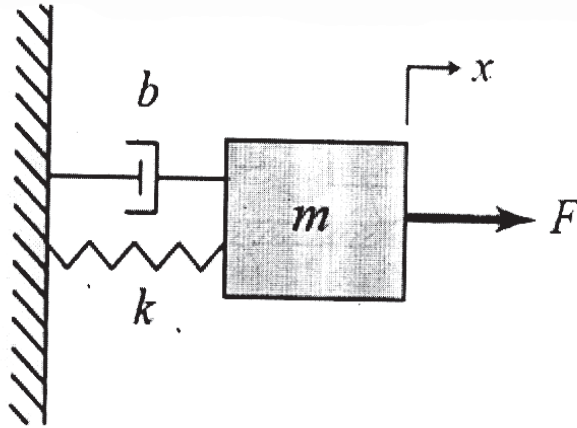

Figure 3
- Q8) a)** For the system in Figure 3, assume m =mass=2 kg, k =stiffness=4 N/m and b =damping = 0.3 Ns/m. Also, F =Force input in N and x = displacement output in m. **[10]**